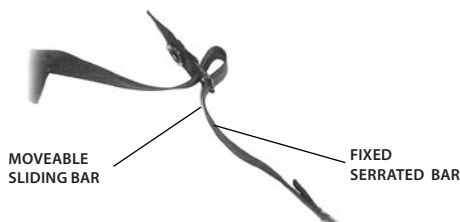

FIGURE 4-7. LACING THE SLIDING BAR BUCKLES
1. Thread the strap from the inside of the buckle over the moveable sliding bar (see Figure 4-7). Thread the strap back through the buckle; this time, thread it under the sliding bar and over the serrated part of the buckle.